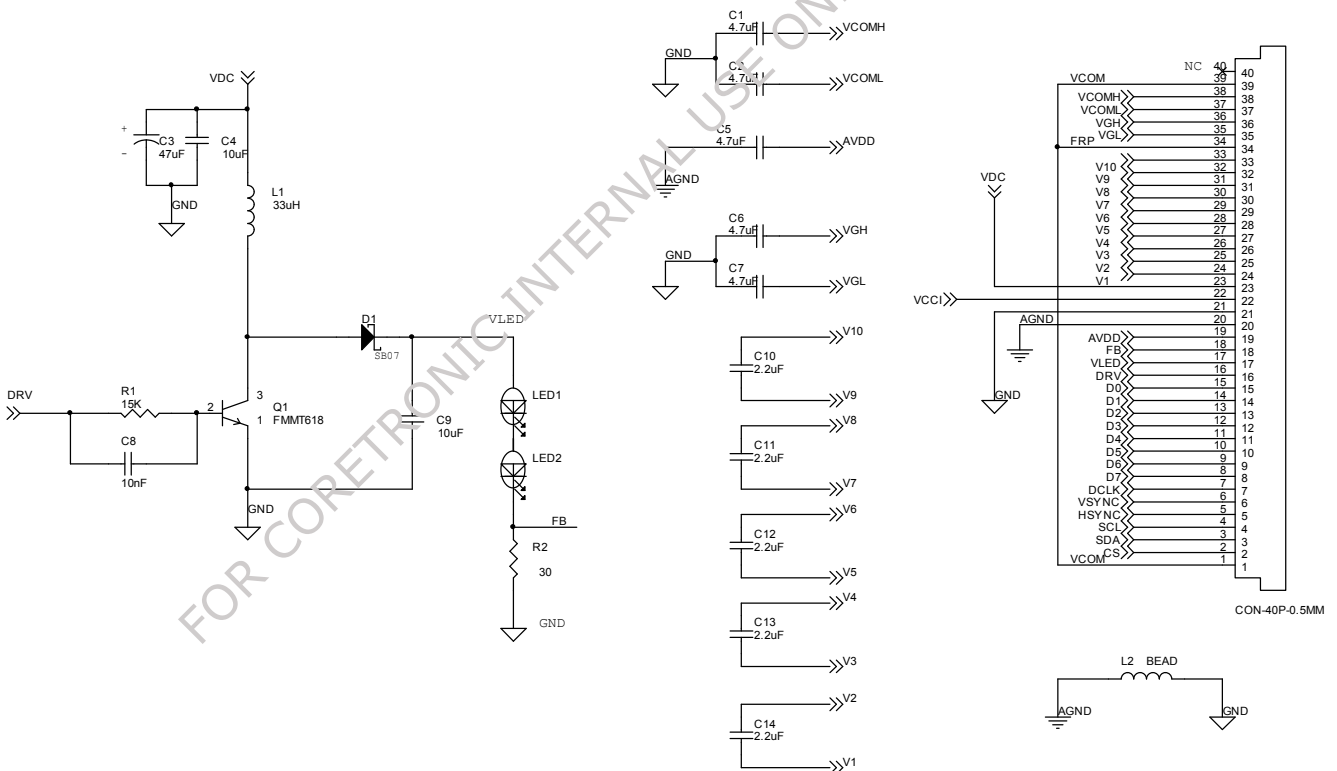

Fig.13 Typical Application Circuit
The integrated driver IC provides build-in LED booster controller, DC-DC charge pump, and Vcom driver. See Fig. 13 for the application circuit.
According to Fig. 13, the L1, Q1, D1, and C9 together form the LED boost converter. The converter with 0.6V feedback (FB) and R2 provide a constant 20mA current for LED backlight unit. The boost converter switching signal DRV is generated based on divided frequency of DCLK. Therefore the DCLK input is required for LED driver operation, and the absence of DCLK signal during normal operation will set the driver IC into standby mode. A low ESR capacitor for C9 is recommended in order to reduce voltage ripple of VLED. The built-in LED boost controller is default active, and it is able to be turned off by setting the register SHDB1 to low.